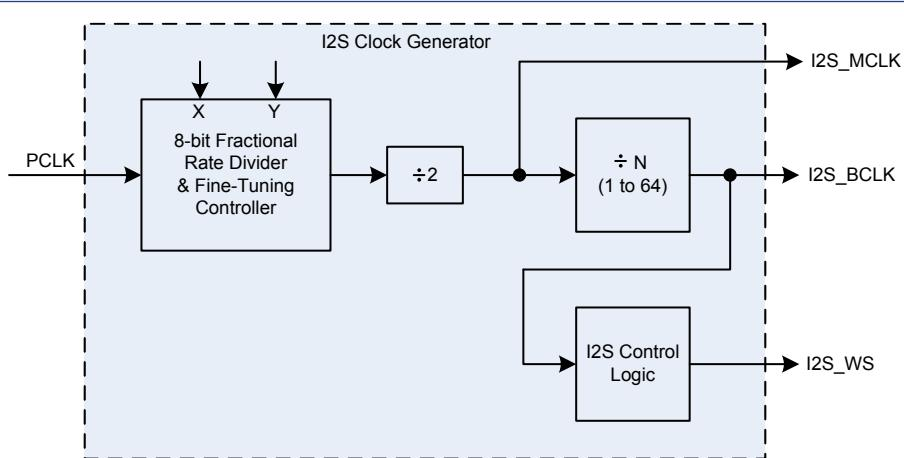

Figure 193. I2S Clock Generator Diagram
The main (I2S\_MCLK) and bit clock (I2S\_BCLK) rates for the I2S are determined by the values in the I2SCDR register. The required I2S bit clock rate setting depends on the desired audio sample rate desired, the format (stereo/mono) used, and the data size. The main clock rate (I2S\_MCLK) is generated using a fractional rate divider which is a divided down PCLK frequency of the I2S. Values of the numerator (X) and the denominator (Y) must be chosen to produce a frequency twice that of the main clock (I2S\_MCLK). The output frequency of the divider is divided by 2 in order to get the duty cycle of the output clock more even. The I2S clock generator block diagram is shown in Figure 193. The equation for the fractional rate divider is: